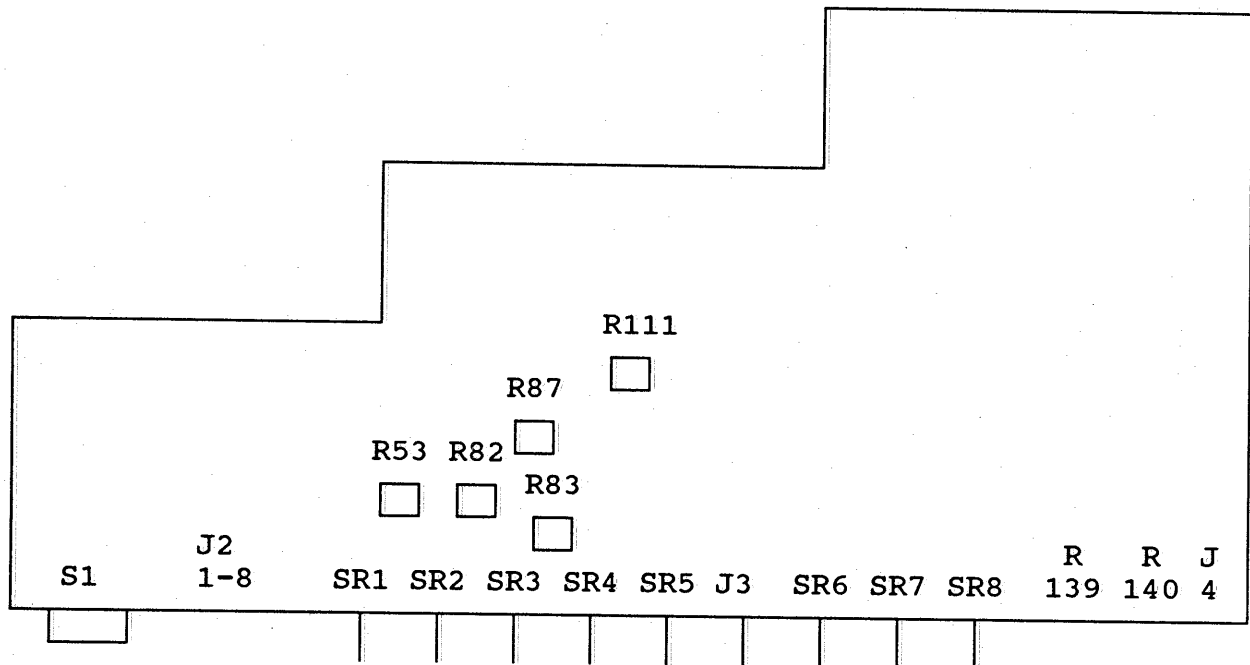

Figure 5-1. Internal Adjustment Locations (top view of bottom PCB)
3. Refer to the adjustment location drawing (Figure 5-1) to determine the physical location of the desired pot.
Figure 5-1 shows locations for internal control adjustments.
Output corrected but picture not framed horizontally.	Misadjustment of H ϕ pot R111 (See Figure 5-1).